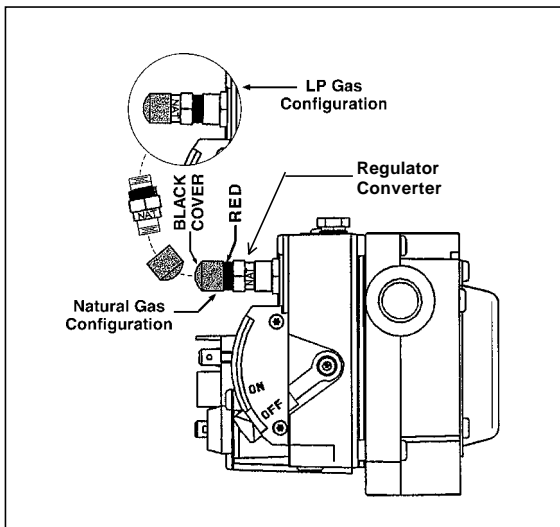

Figure 16. Natural Gas Configuration
at 10.0 in WC. This pressure can be checked at the port located on the gas outlet end of the gas valve using a pressure gauge or U-tube manometer, which must be installed according to the manufacturer's supplied instructions. If the manifold pressure is not equal to the valves above, then it must be adjusted. To adjust the manifold pressure, remove the regulator converter from the gas valve, as shown in Figure 16. Then turn the adjusting screw clockwise to increase the pressure or counterclockwise to reduce the pressure. Once the manifold pressure is correctly set, replace the regulator converter in the same manner as it was removed earlier.
The gas valve lever can be set to ON or OFF, as shown in Figure 16. When in the ON position, gas flow through the gas valve is allowed when the valve is energized electrically. When in the OFF position, gas flow is completely shut off.
4. Remove three (3) hexagon nuts holding burner in place.
7. Remove three (3) bolts from U-shaped manifold plate and orifice assembly.
9. Remove the regulator converter and its black cover located on top of the gas valve and invert. (See Figure 16 — For LP, the red ring will be located at the bottom and the “LP” stamping on the converter will appear right side up.)